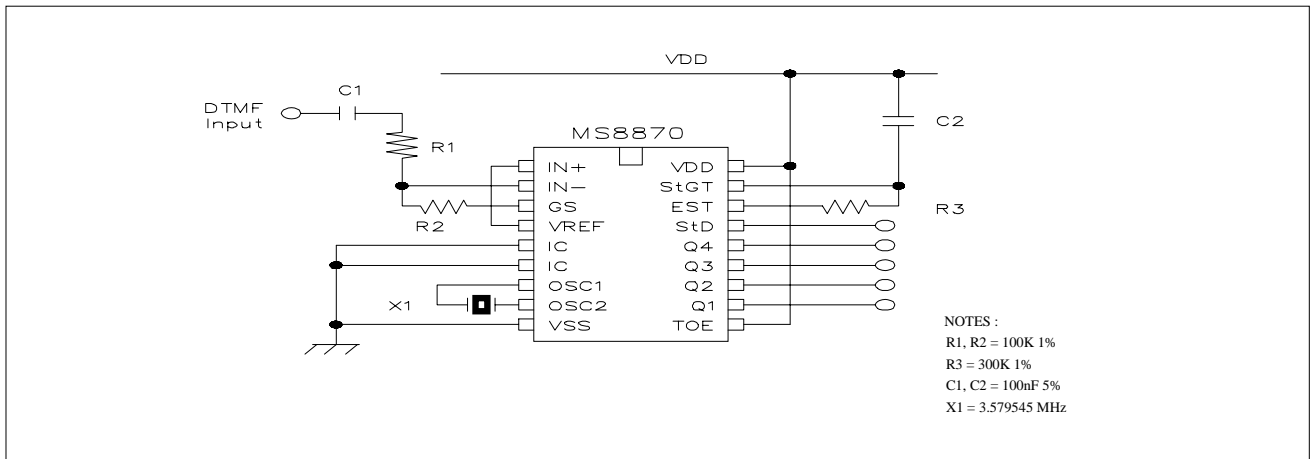
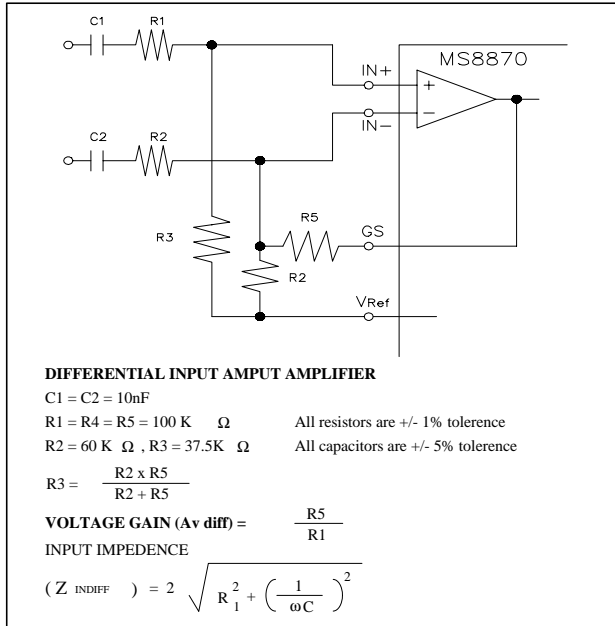

Figure 2. Single Ended Input Configuration
Figure 8. Differential Input Configuration
* All voltages referenced to Vss unless otherwise noted. Vcc = 5.0V, Vss = 0V, TA = 25°C, Fc = 3.579545 MHz, using test circuit shown in Figure 2
The input arrangement of the MS8870 provides a differential-input operational amplifier as well as a bias source (V_{Ref}) which is used to bias the inputs at mid-rail. Provision is made for connection of a feedback resistor to the op-amp output (GS) for adjustment of gain. In a single-ended configuration, the input pins are connected as shown in Fig. 2 with the op-amp connected for unity gain and V_{Ref} biasing the input at $\frac{1}{2}V_{\text{DD}}$. Fig. 8 shows the differential configuration, which permits the adjustment of gain with the feedback resistor $R5$.